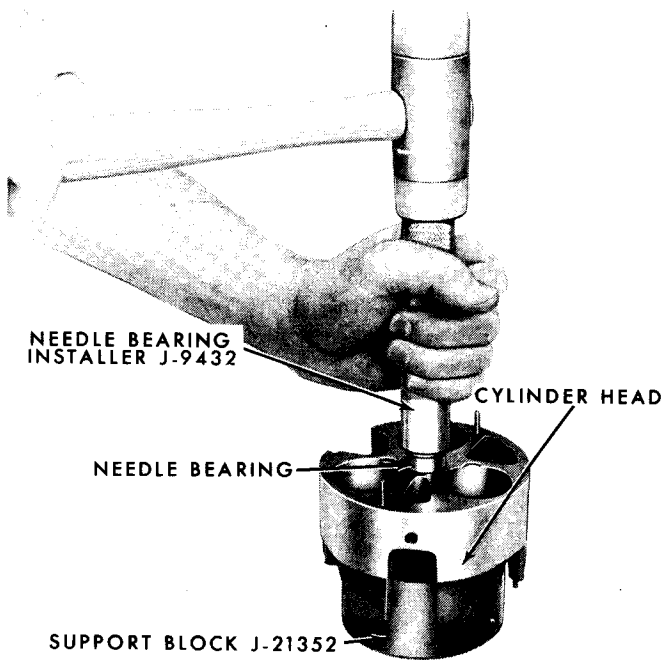

Figure 105—Installing Needle Bearing
16. Needle bearings may be removed if necessary by driving them out with special Thin-Wall Socket J-9399. Insert socket in hub end (inner side) of cylinder head and drive bearing out. To install needle bearing, place cylinder half on Support Block J-21352, and insert bearing in end of cylinder head with bearing identification marks UP. Use Needle Bearing Installer J-9432 and drive bearing into cylinder head (figure 105) until tool bottoms on the cylinder face.